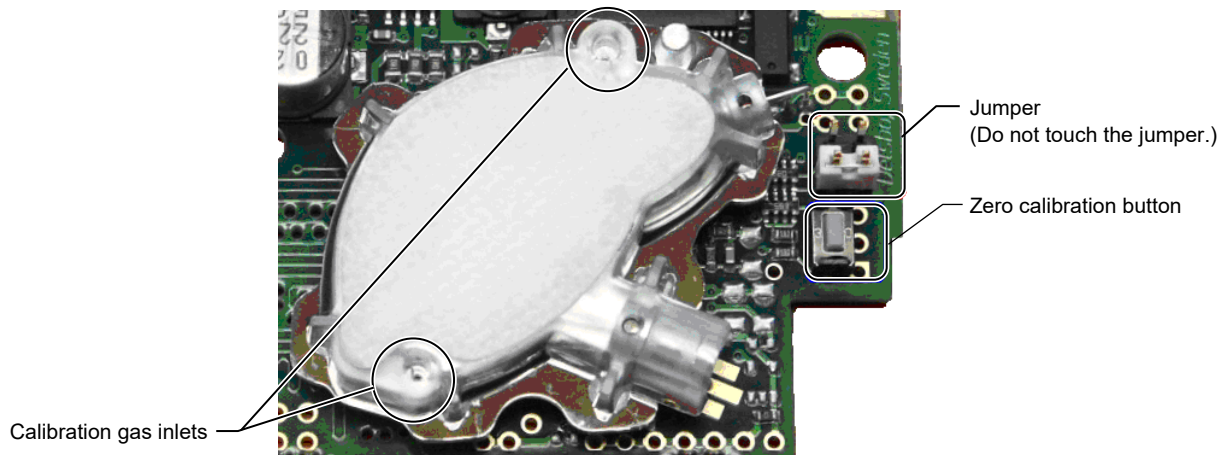

Figure 12. Layout of zero calibration button and the calibration gas inlets
- 6) When the values become stable, press and hold the zero calibration button (shown in Fig. 12) of the sensor for approximately three seconds to activate the zero calibration.